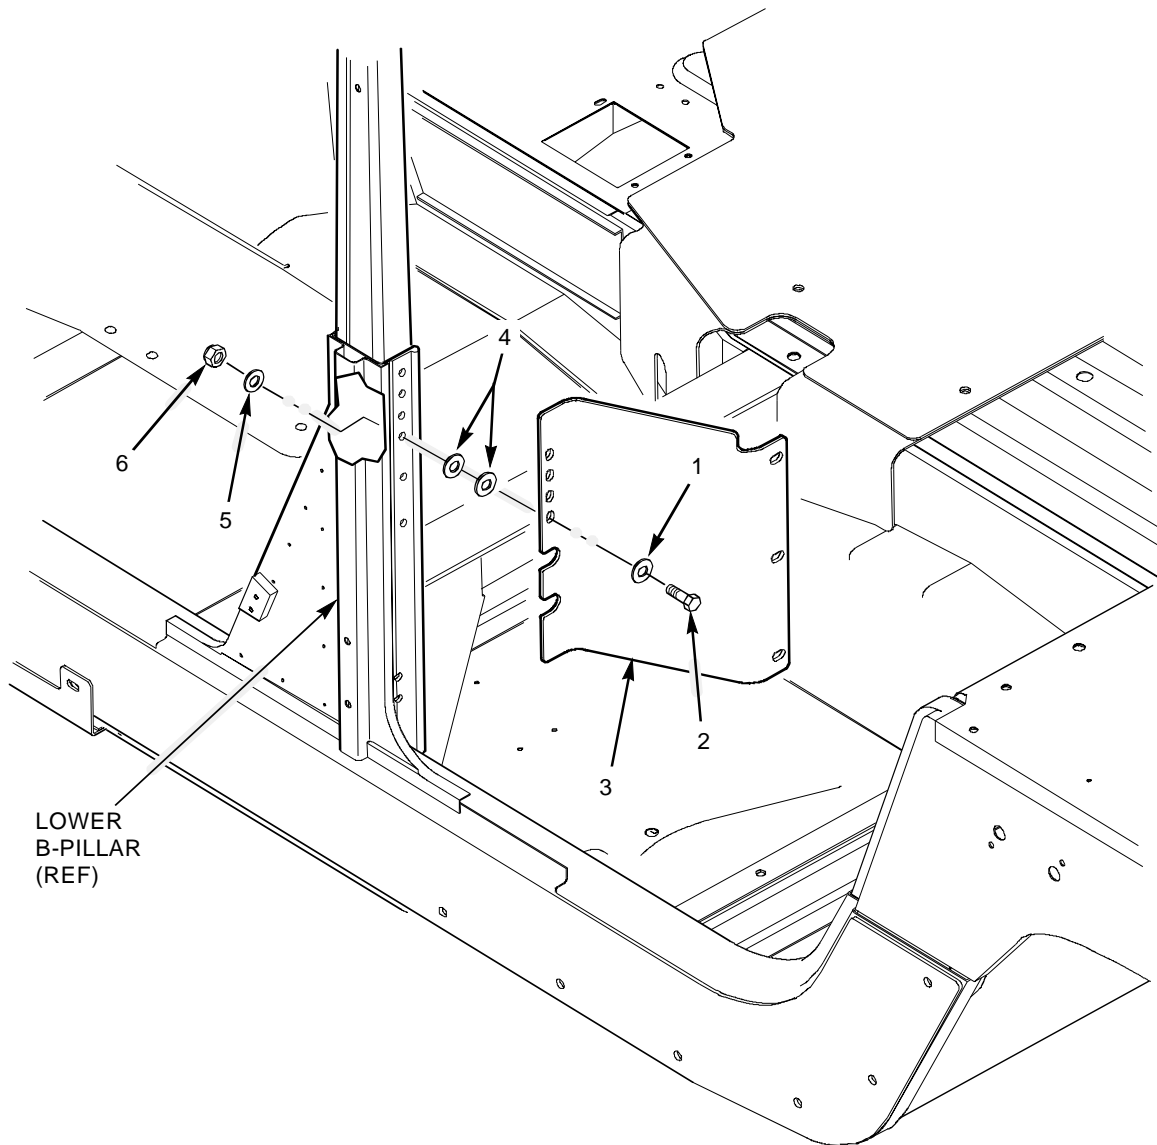
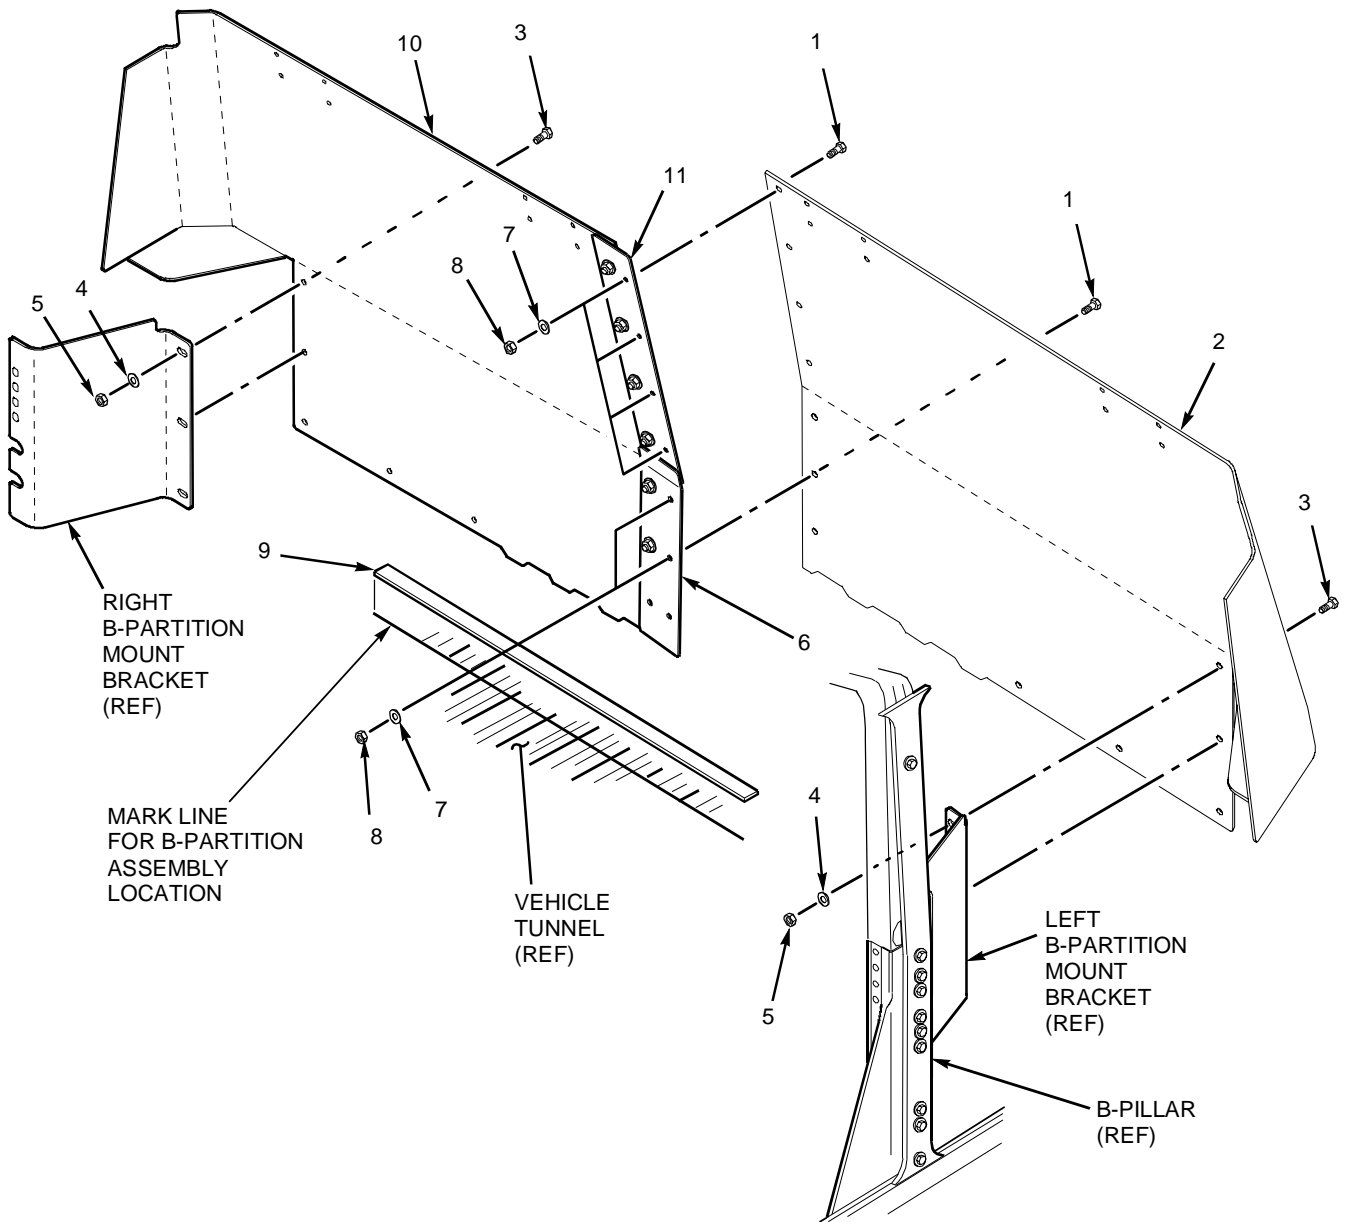

Figure 1-16. B-Partition Mount Bracket Installation (2 Door Only)
Figure 1-18. B-Partition Installation (2 Door Only)
- 1) Install B-partition mount bracket as follows (see figure 1-16).
- a. Install left B-partition mount bracket (3) onto lower B-pillar securing with four capscrews (2), washers (1), washers (4) and locking nuts (5). Do not tighten capscrews (2) at this point.
- 3) Install B-partition assemblies as follows (see figure 1-18).
- a. Align right B-partition assembly (10) and left B-partition assembly (2) into position with right and left B-partition mount brackets. Mark a line onto vehicle tunnel for B-partition rubber location.
- c. Apply rubber strip (9) to vehicle tunnel in location marked in previous step.
- d. Install right B-partition assembly (10) onto right B-partition mount bracket securing with two capscrews (3), washers (4) and locking nuts (5). Do not tighten capscrews (3) at this point.
- e. Install left B-partition assembly (2) onto right B-partition mount bracket securing with two capscrews (3), washers (4) and locking nuts (5). Do not tighten capscrews (3) at this point.
- f. Install seven capscrews (1), washers (7) and locking nuts (8) to secure left B-partition assembly (2) to upper B-partition gap strip (11) and lower B-partition gap strip (6). Torque all capscrews (1 and 3) to 37 lb ft (50 N•m).
- g. Torque eight B-partition mount bracket capscrews (2 from figure 1-16) to 21 lb ft (28N•m).